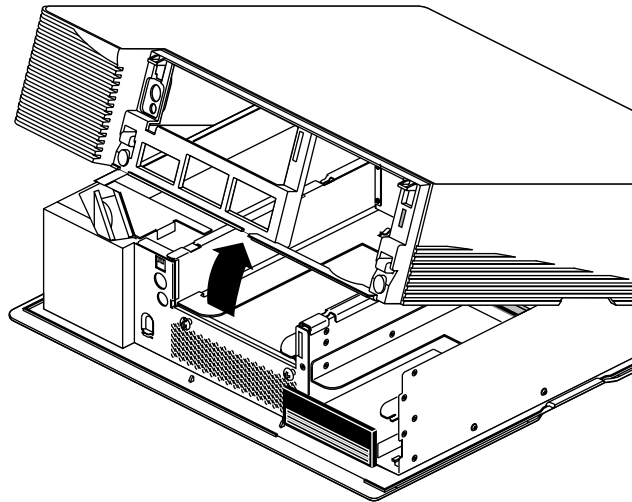

Figure 4-6 Removing the Top Cover
- Pull up on the cover and rotate it back and away from the chassis, as shown in Figure 4-6.